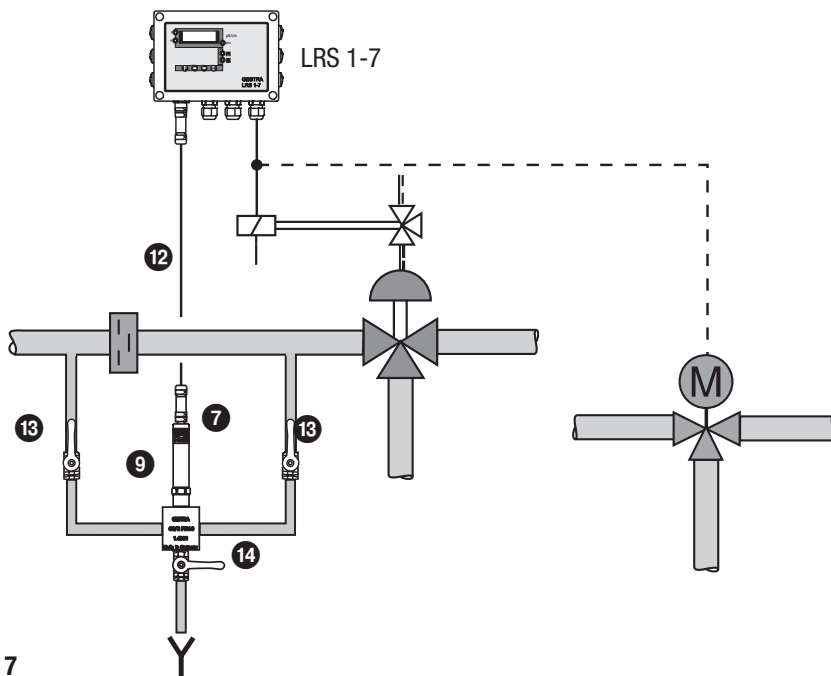

Fig. 7
- The conductivity electrode is mounted in a bypass below the main line. This arrangement prevents gas bubbles and flash steam from reaching the equipment. **Fig. 7**
- If the above-mentioned control cable assembly is not used, the connecting line must be provided with a screened female connector according to the wiring diagram. **Fig. 7**. Observe the mounting instructions of the connector manufacturer.